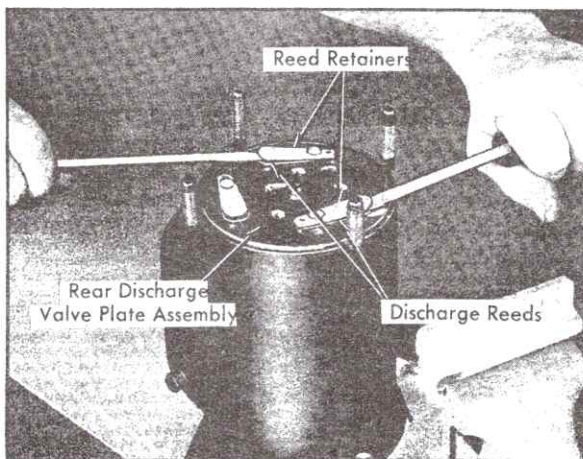

Fig. 1-47 Removing Rear Discharge Valve Plate
11. Carefully remove rear discharge valve plate assembly. Use two small screwdrivers under reed retainers and pry up on assembly, Fig. 1-47. Do not position screwdrivers between reeds and reed seats.